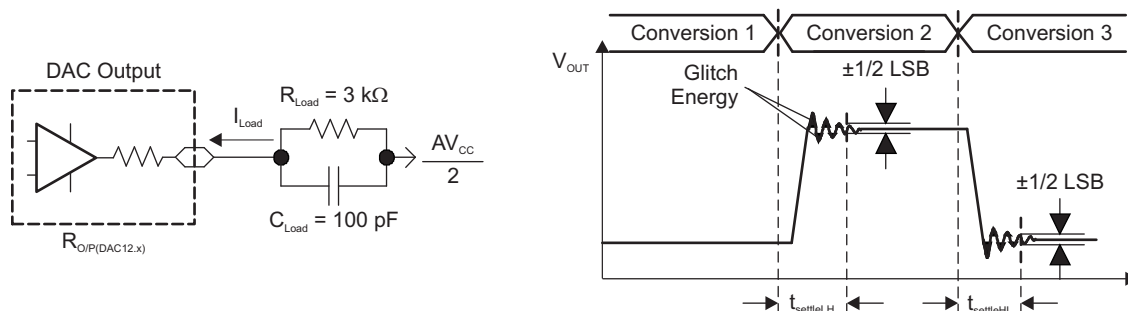
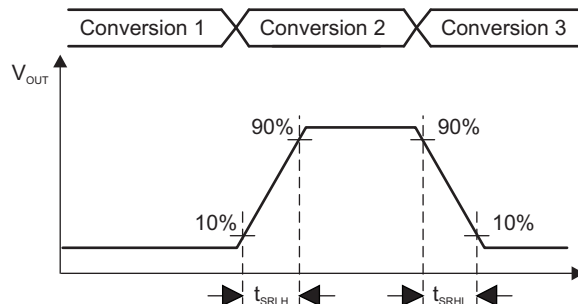

Figure 5-19. Settling Time and Glitch Energy Testing
**Figure 5-20. Slew Rate Testing**
VREF = VCC, DAC12IR = 1 (see Figure 5-19 and Figure 5-20), over recommended ranges of supply voltage and operating free-air temperature (unless otherwise noted)
| t ON     | DAC12 on time               | DAC12_xDAT = 800h, Error V(O) < ±0.5 LSB (1) (see <a href="#">Figure 5-19</a> ) | DAC12AMPx = 0 → {2, 3, 4} | 2.2 V, 3 V      |      | 60   | 120 | μs   |
(1) RLoad and CLoad connected to AVSS (not AVCC/2) in Figure 5-19.
(2) Slew rate applies to output voltage steps ≥ 200 mV.